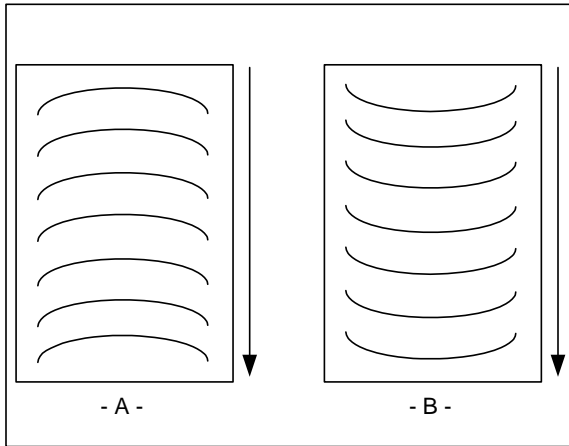

FIGURE 41
1. “D” waves in the image (Fig. 41 A).
2. “D” waves in the laminate (Fig. 41 B).